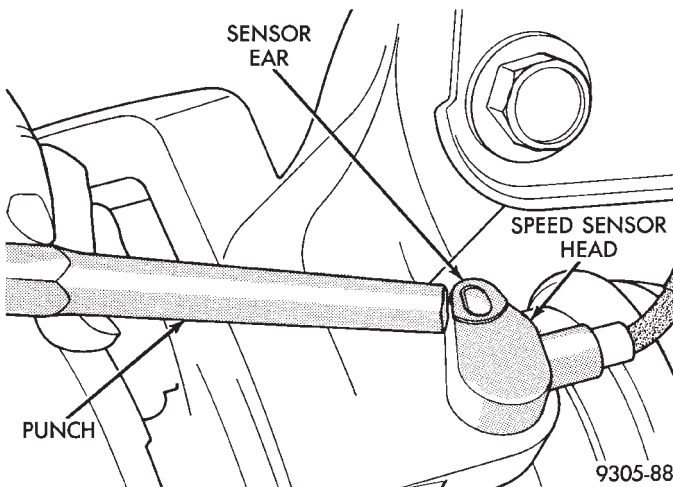

Fig. 18 Speed Sensor Head Attachment To Steering Knuckle
(4) Remove retainer, holding the speed sensor sealing grommet, from the inner fender. pull the grommet out, then unplug the speed sensor cable from the vehicle wiring harness
(5) Remove bolt attaching speed sensor to steering knuckle. Carefully remove speed sensor head from steering knuckle. If sensor is seized in place by corrosion, tap the edge of the sensor ear with a hammer and brass punch (Fig. 18), working it side to side.